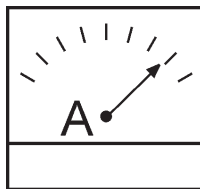

Figure 50. Ammeter (Load)
14. Observe the generator's ammeter (Figure 50) and verify it reads the anticipated amount of current with respect to the load. The ammeter will only display a current reading if a load is in use.